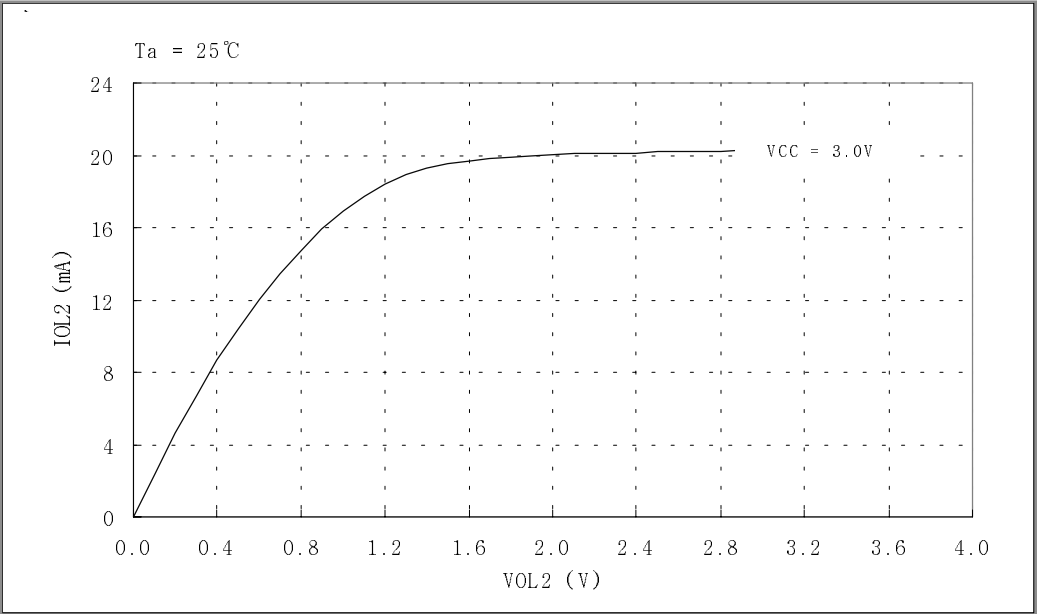
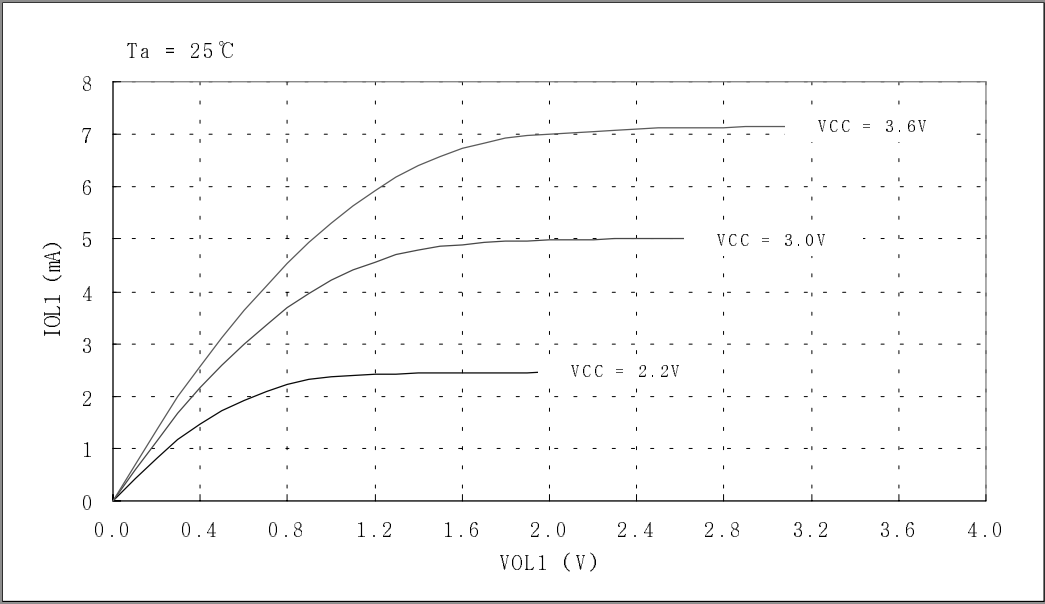

Fig 8-1. IOL2 vs. VOL2 Graph. (D, R, OD6 Port)
Fig 8-2. IOL1 vs VOL1 Graph (REMOUT Port)
*1 Refer to Fig.8-1 < I_{OL2} vs. V_{OL2} Graph>*2 Refer to Fig.8-2 < I_{OL1} vs. V_{OL1} Graph>*3 Refer to Fig.8-3 < I_{OH1} vs. V_{OH1} Graph>*4 I_{DD1}, I_{DD2} is measured at RESET mode.